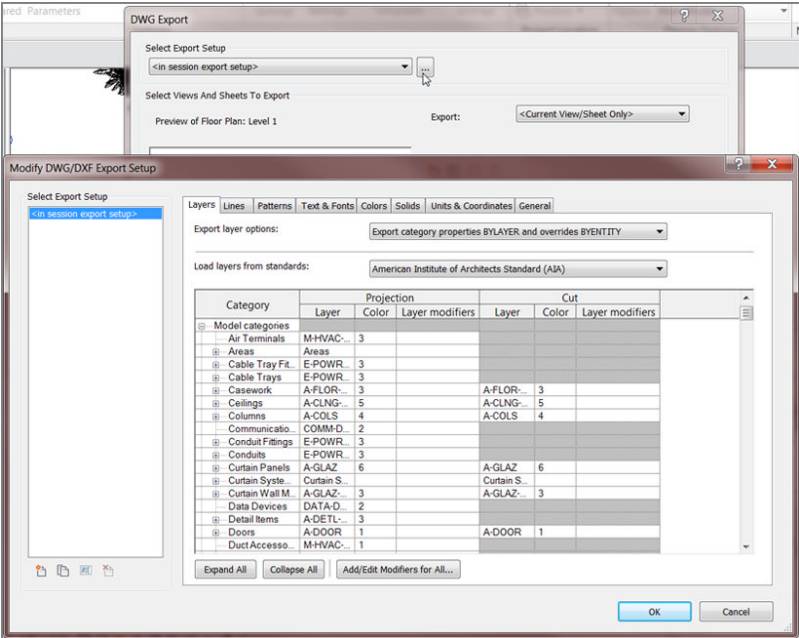

FIGURE 20.24: Look at all the CAD choices!
3. Click the [...] button to the right of the Select Export Setup drop-down, as shown in Figure 20.24.